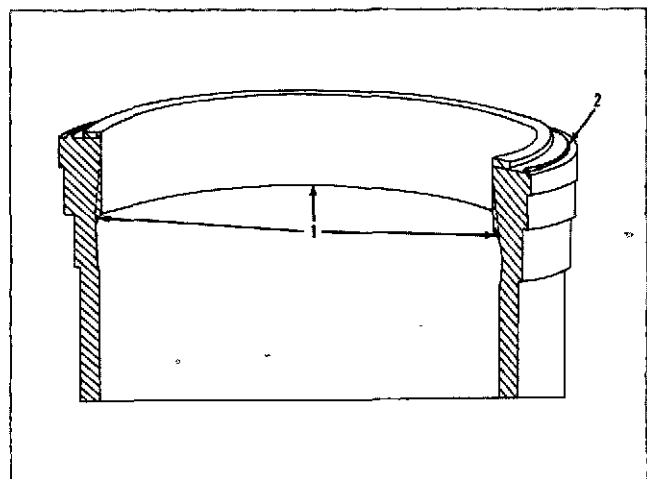

Fig. 1-2-2, N20151. Worn ridge in cylinder liners
6. Mark liners to be reused for ridge cutting, boring or grinding and honing if worn less than above limits and otherwise undamaged in area (1, Fig. 1-2-2).